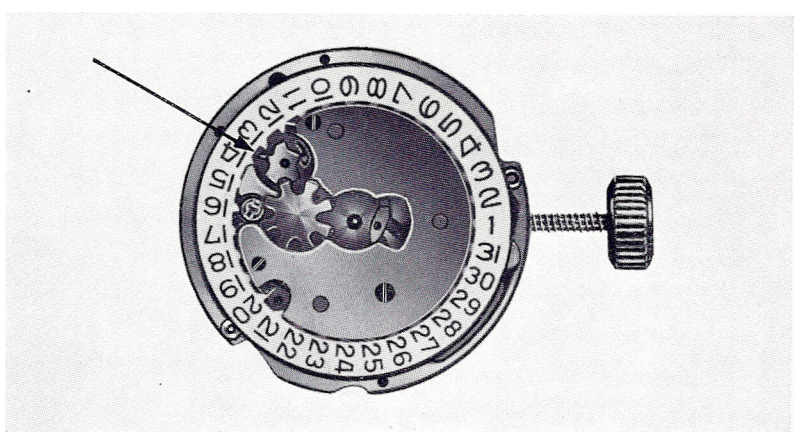

Figure 7
1. Make sure that the finger of the date indicator driving wheel (574) does not interfere with the teeth of the inter-
mediary day wheel (609) but is positioned on the other side, as shown in figure 7.
2. Keep slight pressure on the day dial disk (591) and with the aid of a pointed tool, through the hole, pull the day jumper (586) backwards (against the stem) in order to set it between two teeth of the day star.